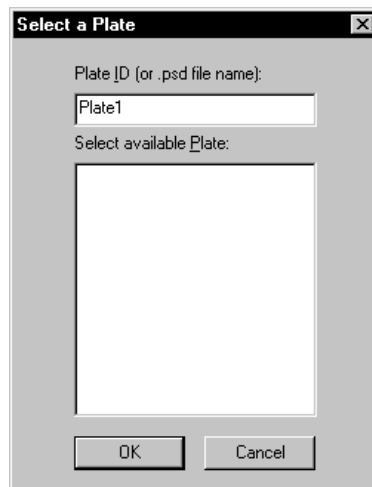

Figure 4-5. The Select a Plate window.
1. In the Instrument Control window, with the **Inject Samples and Run** protocol selected, click **Start**. The Select a Plate window appears (figure 4-5).